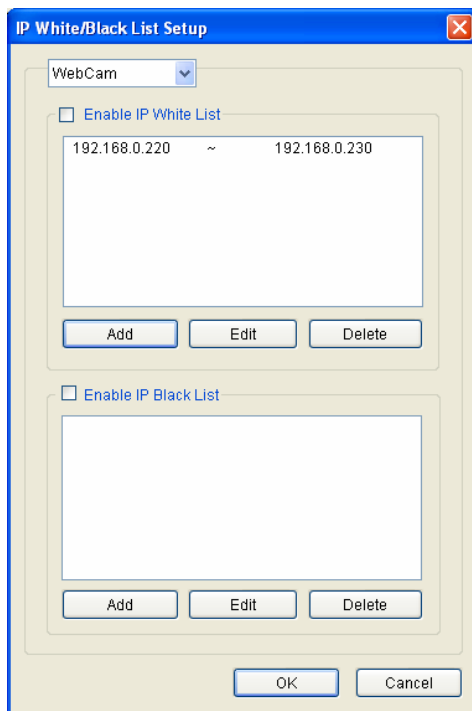

Figure 11-60
- **Block IP:** Prohibits the IP address from connecting to the WebCam server. To use the function, the **Enable IP Black List** option (Figure 11-60) must be selected first.